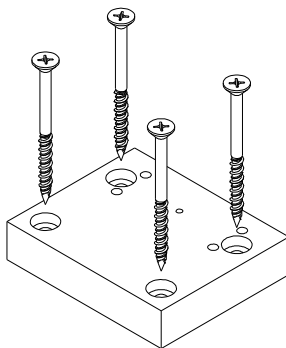

Figure 12:
- c. Fasten to the floor (Figure 12), the bottom section of the Archetype Floor Pivot with the factory provided concrete anchor screws ($1/4$ " FHP Concrete screw, $3-1/4$ ").